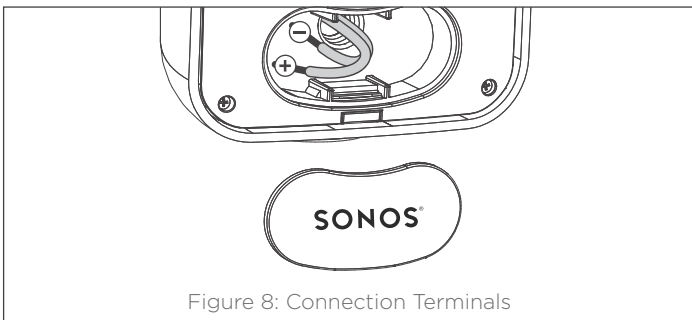

Figure 8: Connection Terminals
- Insert the wires into the connector holes(see figure 8).